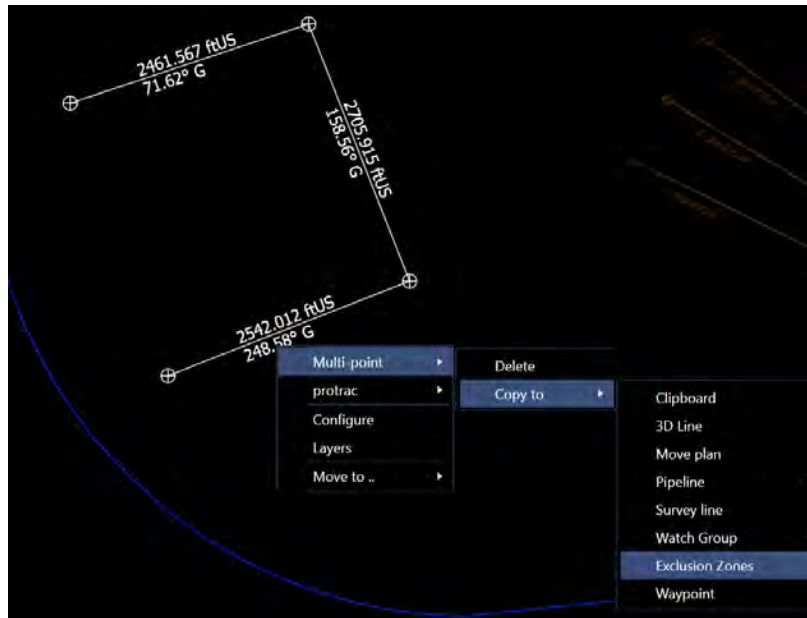

FIGURE 19-12 COPY STATIC MULTI-POINT TO EXCLUSION ZONE
- i. The multi point picker is used to create more complex regions. To use this tool, select the multi point picker on the map toolbar, and select 2 or more points on the map. If only two points are selected, only a line based region will be created. If more than 2 points are selected, a line or polygon based region can be created. Then right click on the line(s) which have been created, and select copy to-> Exclusion zones (see Figure 19-12)